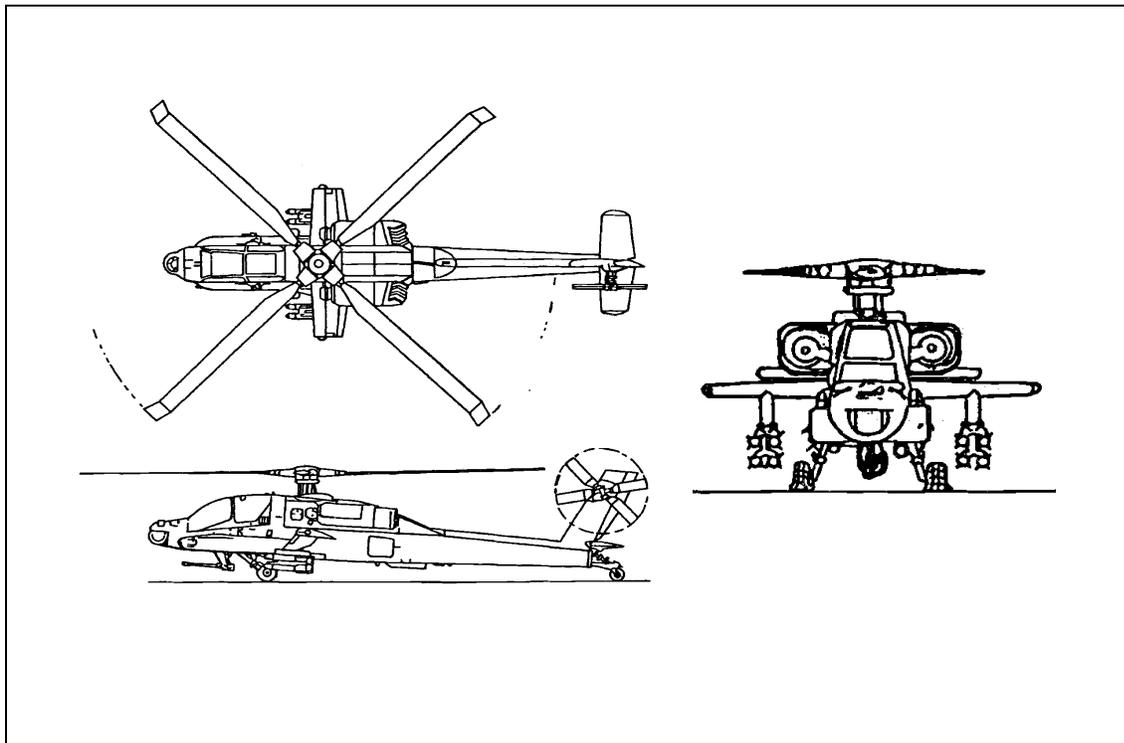

**Figure B-3. AH 1S (Cobra).**
a. **AH 1S Cobra.** Table B-3 shows specifications for the Cobra; Figure B-3 shows the aircraft from three angles: